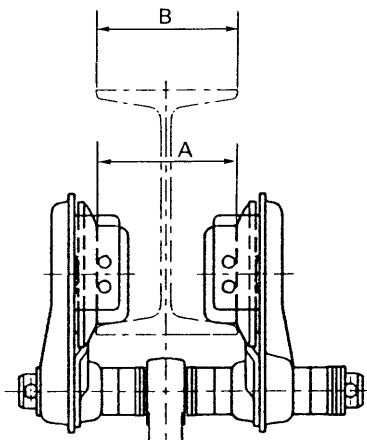

Fig. 6
- (1) Make sure that the direction is as shown in Fig. A to E.
- (2) The right and left side plates should be as far apart as possible, and the difference between A and B should be approximately 4mm (Refer to Fig. 6).